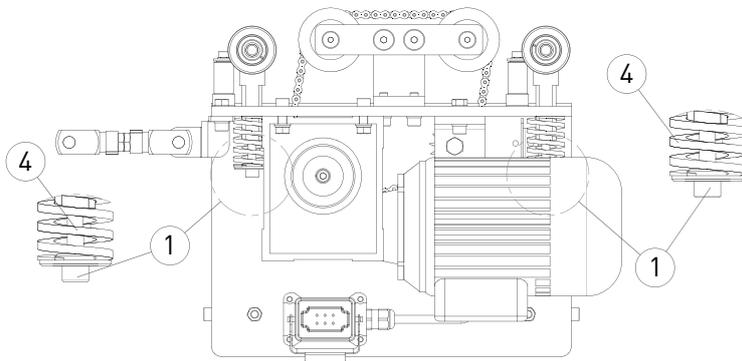

Figure 1.
STEP 3: Unscrew (do not remove) the socket screws (f/n 1) that hold the adjustable wheel trolleys assembly. See Figure 1
(Figure 1, f/n 1) against the springs (Figure 1, f/n 4), so that the friction wheels start to contact the upper face of the track profile. See Figure 7.